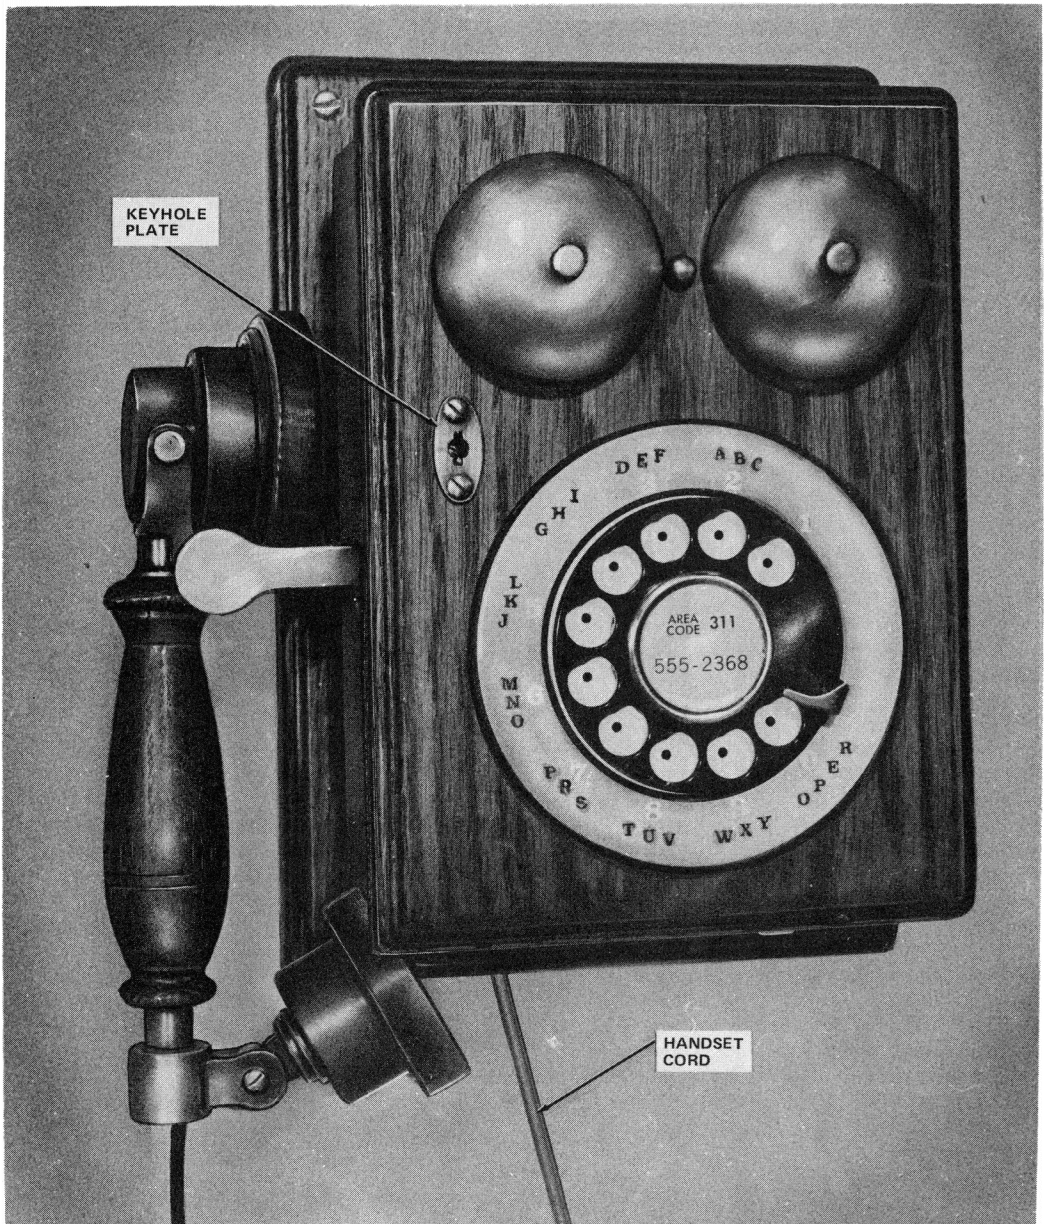

Fig. 1—951A1-03 DESIGN LINE Telephone Set
1.01 This section contains information on the 951A1-03 DESIGN LINE* telephone set (*Country Junction**). This set is a simulated antique wall telephone set (Fig. 1).
2.06 The handset assembly is a special antique design (Fig. 1).
3.03 To gain access to the interior of the set for wiring changes, insert a small standard blade screwdriver into the key-hole plate on the front of the telephone set (Fig. 1) and turn the